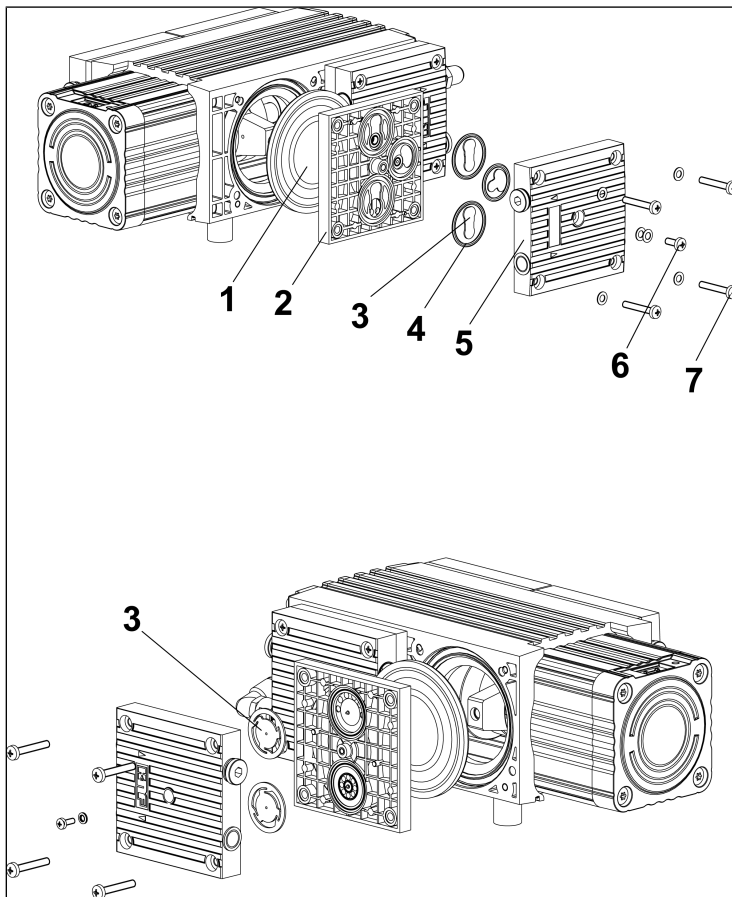

Fig. 6: Exploded view
**see Fig. 6
7. Loosen the outer 8 fastening screws (7/Fig. 6) of the heads (1 and 2) and remove the heads (1 and 2).
4. Place heads 1 and 2 on the compressor housing and tighten the fastening screws (7/Fig. 6) finger-tight in a crosswise pattern (tightening torque: 3.5 Nm).